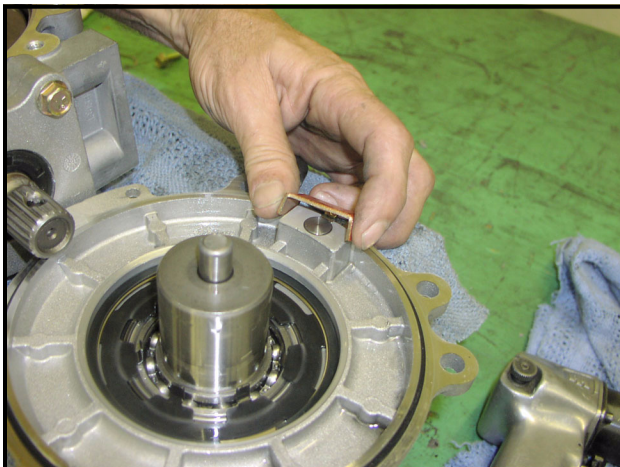

Figure 9-8 Thrust Plate
1. Position the output cover on a clean solid surface with the splined hub up (**Figure 9-8, Page 9-4**).